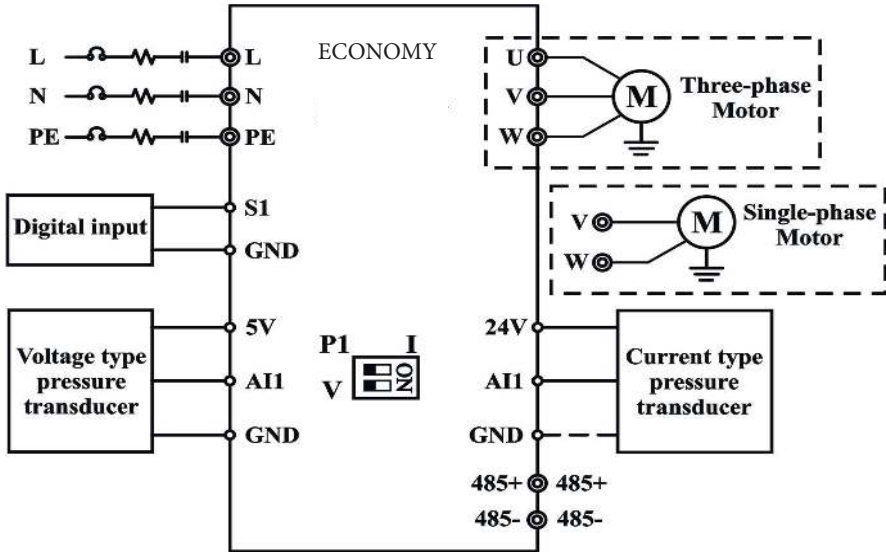
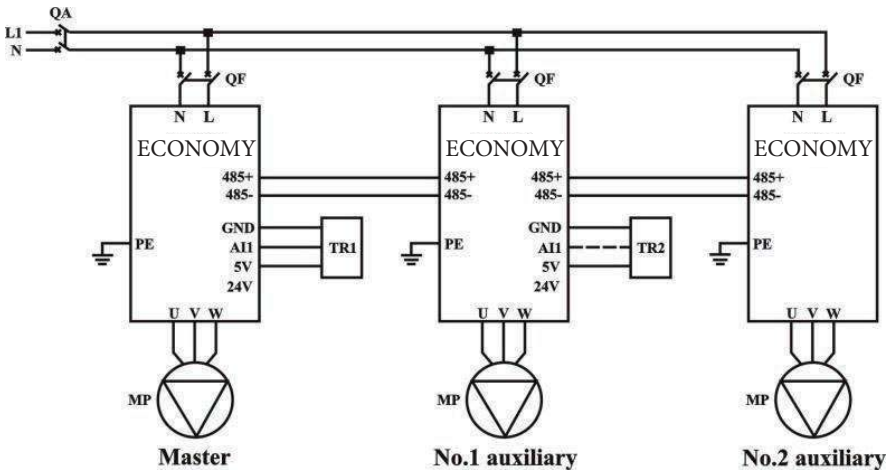

Fig. 6-1-1 Single-pump water supply wiring diagram
Fig. 6-1-2 Water supply wiring diagram of the connected pump
- The sensor used in Figure 6-1-2 is the three-line voltage sensor of the company. If the current sensor is used, please refer to Figure 6-1-1 for the wiring method.